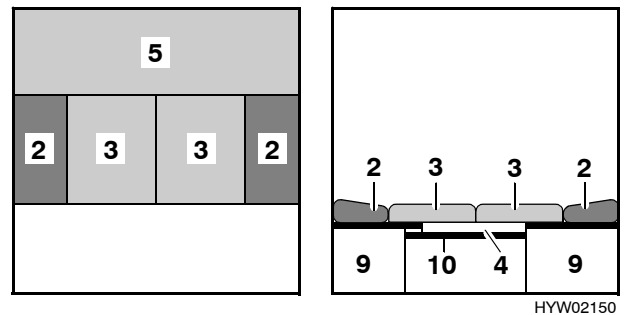

Fig. 87 After conversion
- Place the two seat cushions (Fig. 87,3) in the centre.
- Insert the back cushions (Fig. 87,2) between the seat cushions and the exterior wall.